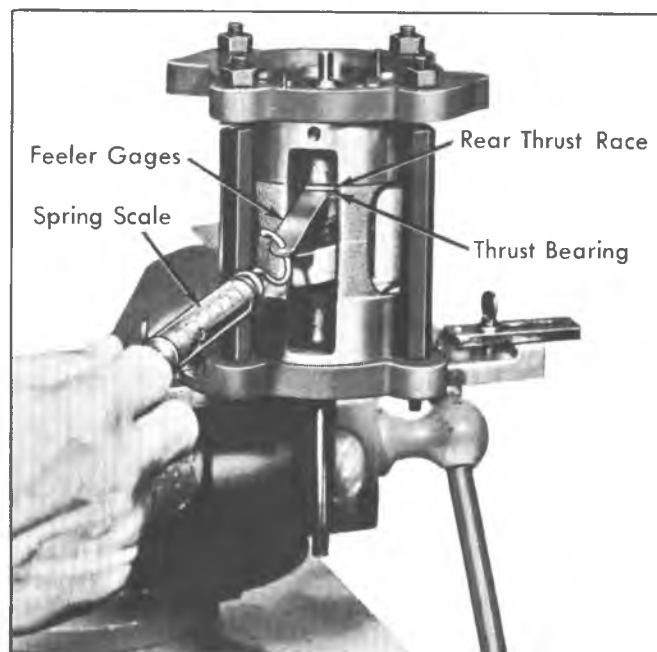

Fig. 24--Checking Clearance Between Rear Thrust Bearing and Outer Thrust Race
14. The next gauging operation is to determine the space between the REAR thrust bearing and the upper (outer) rear thrust race. Use a suitable combination of feeler gauge leaves so that 4 to 8 oz. of force is required to pull gauge free (fig. 24). Select a numbered thrust race to correspond to this feeler gauge reading and place this race in parts tray in the rear thrust race compartment.